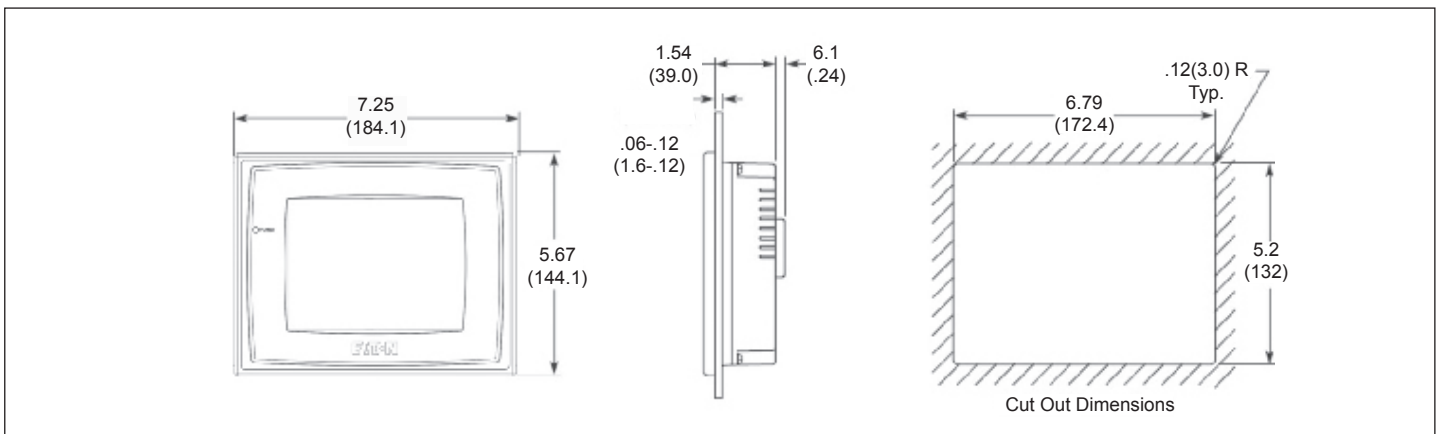

Figure 45. Dimensions and Cutout Size for Eaton 6 in. (152.40 mm) PXMP Display.
- Sufficient open area to provide clearance around and behind the display (see **Figure 45** for PXMP Display dimensions) after it is mounted in the enclosure door;
4. Once a suitable mounting location is determined in the enclosure, use the mounting template (see **Figure 45**) and mark the cutout area on the enclosure door.